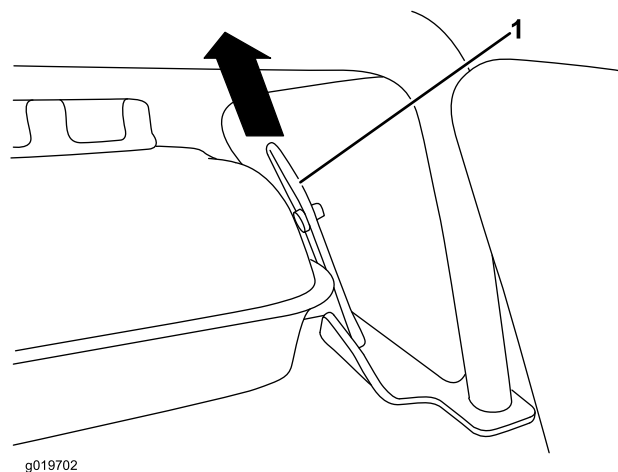

Figure 10
2. Remove the water tank from the frame by pulling up on the elastic tank latch (Figure 10).